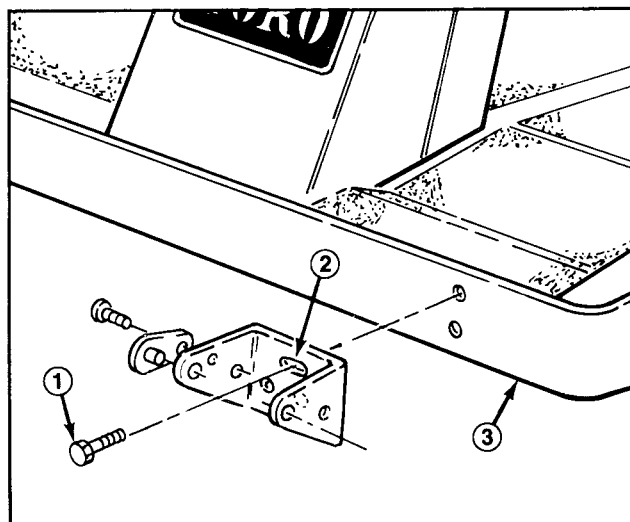

Figure 9
- A. Groundsmaster 220-D and 224 — Insert (2) 3/8 x 1" capscrews through the slotted bracket holes. Thread the capscrews into captivated frame nuts and torque to 45-50 ft-lb (Fig. 9).